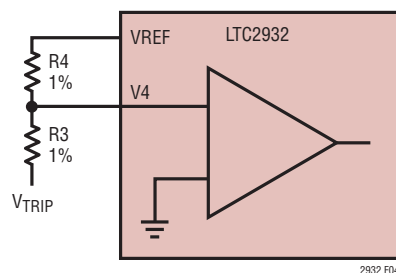

Figure 4. Setting the Negative Adjustable Trip Point
* See Figure 4.
In the negative adjustable mode, the reference level on the V4 comparator is connected to ground (Figure 4). The tap point on an external resistive divider, connected between the negative voltage being sensed and the VREF pin, is connected to the high impedance adjustable input (V4). VREF provides the necessary level shift required to operate at ground. The negative trip voltage is calculated from: